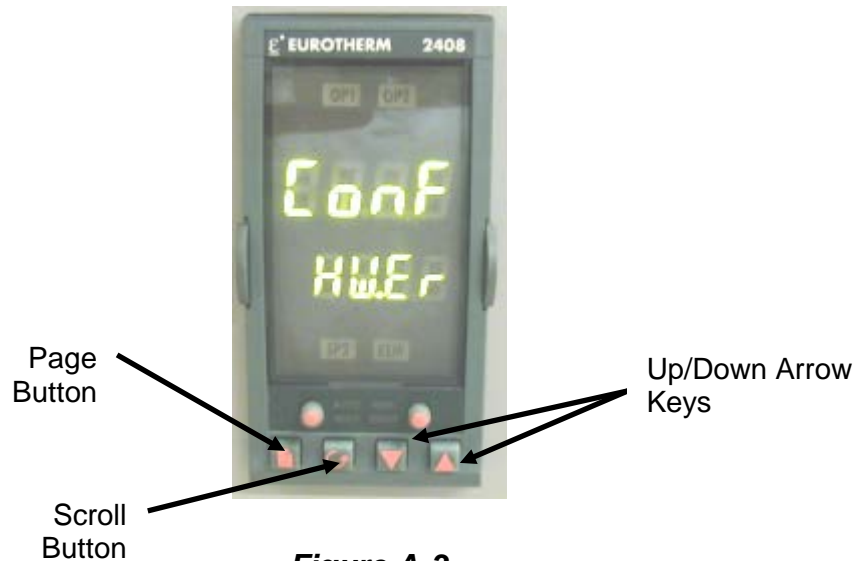

Figure A-3
4. Place Temperature Indicating Controller back into Control Box Assembly and power up unit. The following screen will appear. (See Figure A-3)
5. The Controller will report a hardware error as indicated in Figure A-3. Press the ▲ (up) arrow key located on the right side of the Temperature Controller until "8" appears on the lower half of the screen.